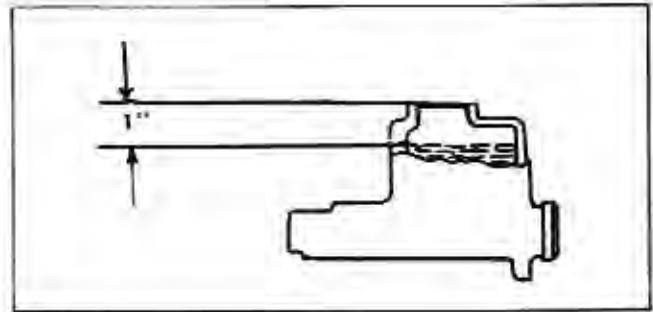

Fig. 5-7 Correct Fluid Level in Master Cylinder
7. Add sufficient brake fluid in the master cylinder to bring fluid level to within 1" of top of gasket surface on filler neck (Fig. 5-7). Bleed brakes if necessary to get proper pedal reserve and remove "spongy pedal".